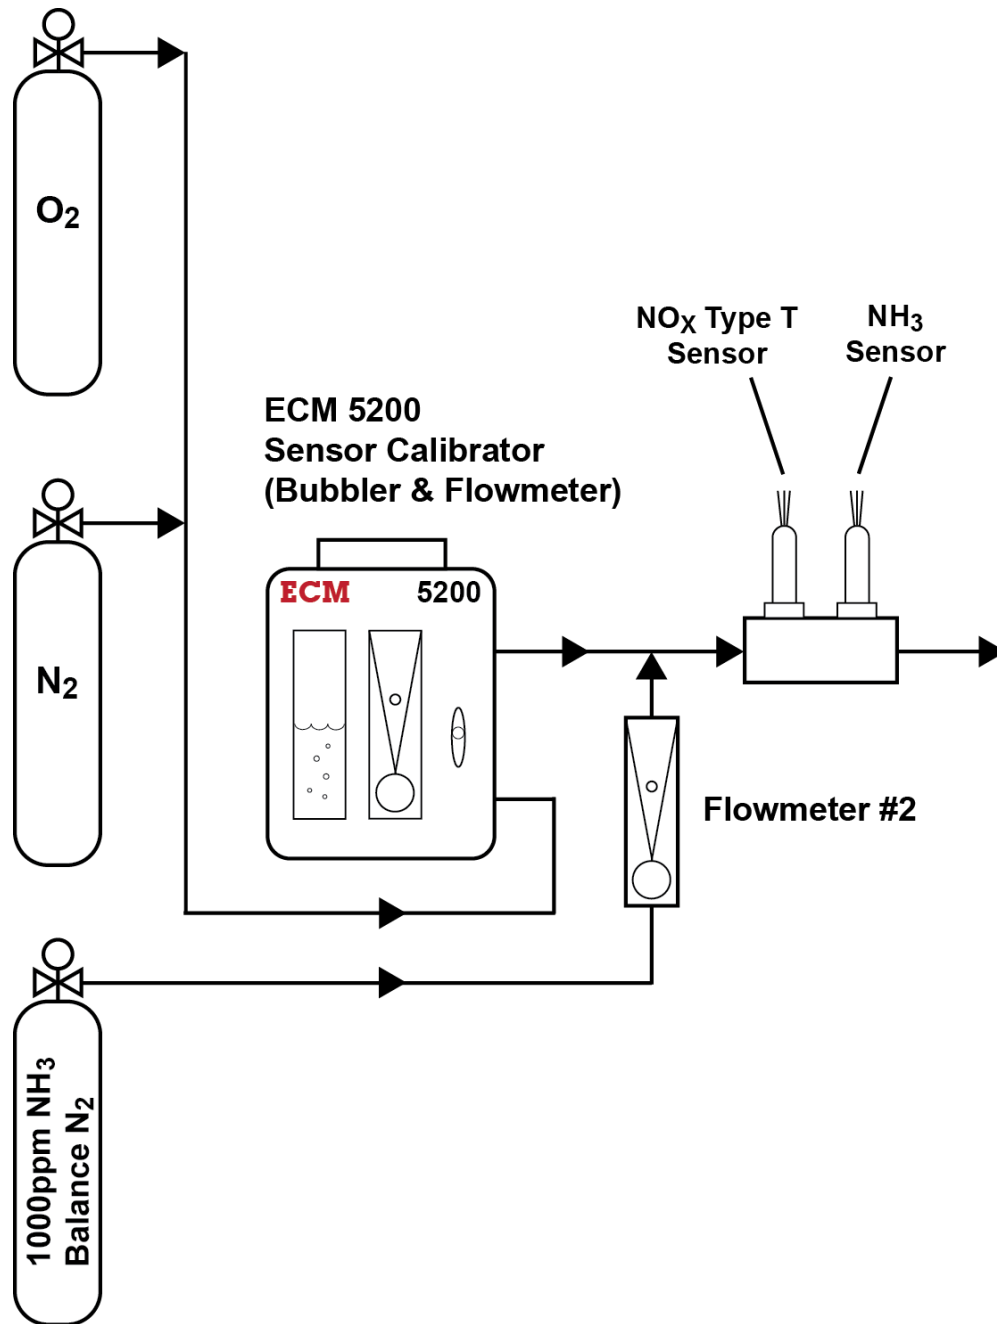

Figure 1: Model Gas Calibration Apparatus
2. Put the NH3 sensor and the pressure sensor (if so equipped) in the model gas calibration apparatus shown in Figure 1 or in the exhaust of an engine.